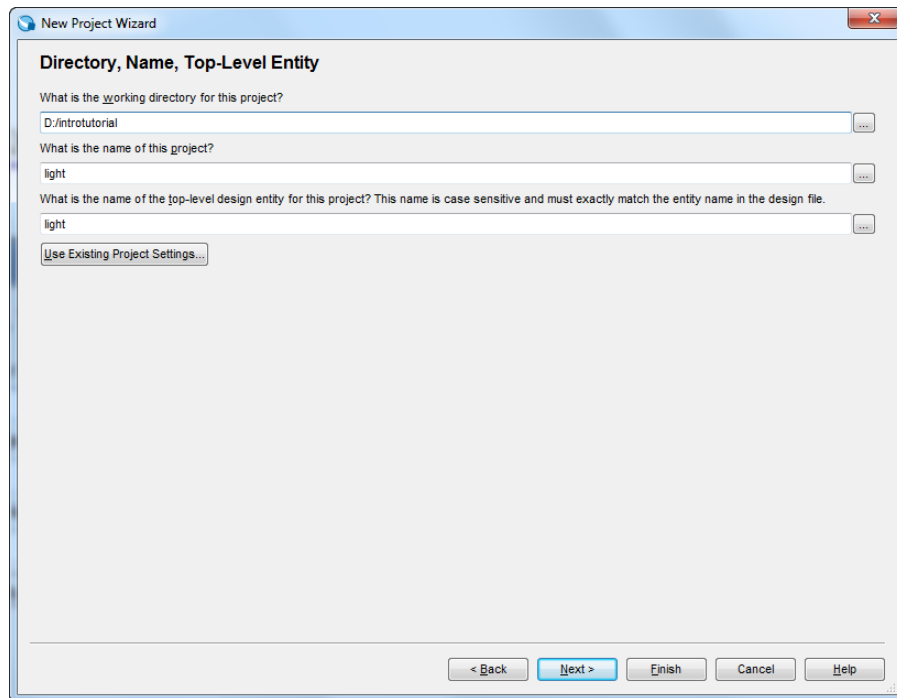
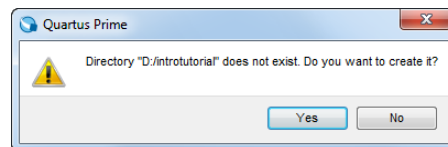

Figure 4. Creation of a new project.
Figure 5. Quartus Prime software can create a new directory for the project.
1. Select **File > New Project Wizard** and click **Next** to reach the window in Figure 4, which asks for the name and directory of the project.
2. Set the working directory to be *introtutorial*; of course, you can use some other directory name of your choice if you prefer. The project must have a name, which is usually the same as the top-level design entity that will be included in the project. Choose *light* as the name for both the project and the top-level entity, as shown in Figure 4. Press **Next**. Since we have not yet created the directory *introtutorial*, Quartus Prime software displays the pop-up box in Figure 5 asking if it should create the desired directory. Click **Yes**, which leads to the window in Figure 6.
The required circuit is described by the Verilog code in Figure 13. Note that the Verilog module is called *light* to match the name given in Figure 4, which was specified when the project was created. This code can be typed into a